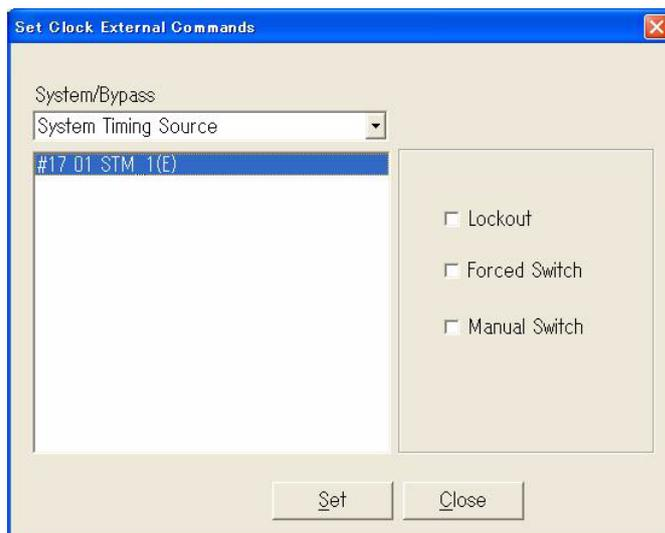

Fig. 4-4-9 Setup-Timing Source Attribute Dialog Box
- 1 Confirm that the **Set Clock External Commands** dialog box shown in *Fig. 4-4-9* is displayed: